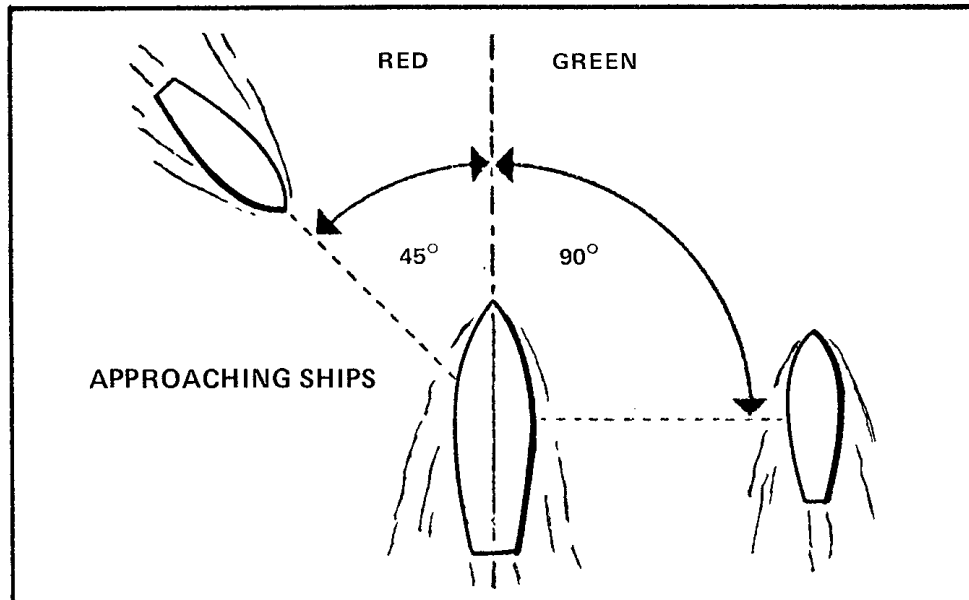

Figure 9-16 Approaching Ships
97. **Red and Green** — All bearings reported by lookouts are preceded by the words **red** or **green** to indicate **port** or **starboard** respectively. This is followed by the number of degrees from 0 (right ahead) to 180 (right astern). In Figure 9-16, the ship on the port bow is bearing "Red four five". The ship on the starboard beam is bearing "Green